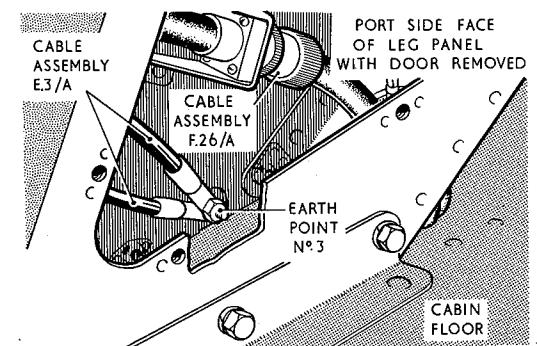

Fig.6 Earth point number 3
- (1) Render the aircraft electrically safe, as described in Group A.1.
- (2) Disconnect the Bowden cable from the rudder bar release lever at the top of the leg panel and stow it away from the panel.
- (3) Disconnect cable assembly E3/A from earth point number 3, obtaining access via the door in the port side of the leg panel (fig.6).
- (4) Disconnect cable assemblies F.5, F.6, F.26A and F.64 from the leg panel. Seal off the plugs and sockets with approved caps and covers and stow assemblies away from the panel.
- (5) Release the leg panel from the mountings by removing the bolts from around the bottom forward and side faces of the panel. Remove the leg panel from the cabin, complete with cable assembly E3/A.